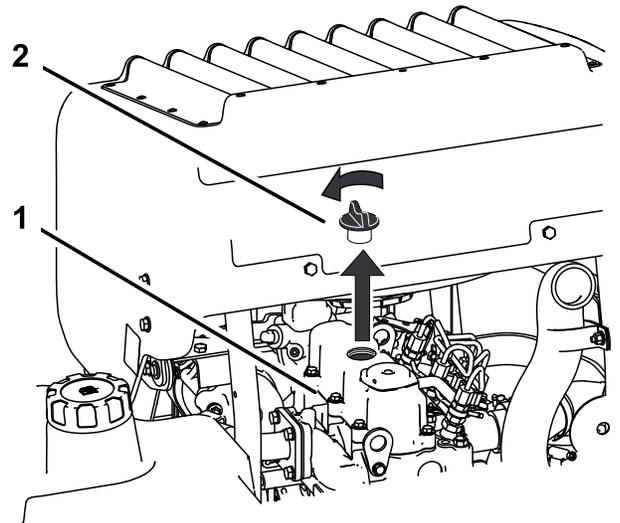

Figure 67
6. Remove the oil filler cap from the top of the engine (Figure 67).
2. Remove the oil-fill cap and dipstick (Figure 67).